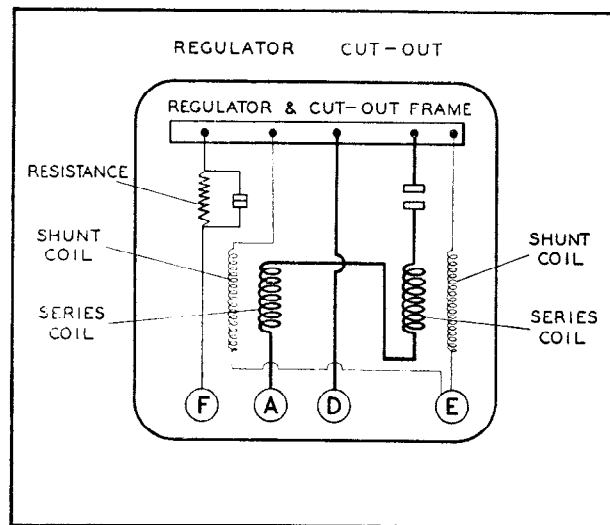

Fig. 4.
Disconnect the battery or, with coil ignition machines, disconnect control box terminal (A) Fig. 4; alternatively, place a piece of paper between the cut-out contacts, making sure that no paper fibres are left behind after removal.